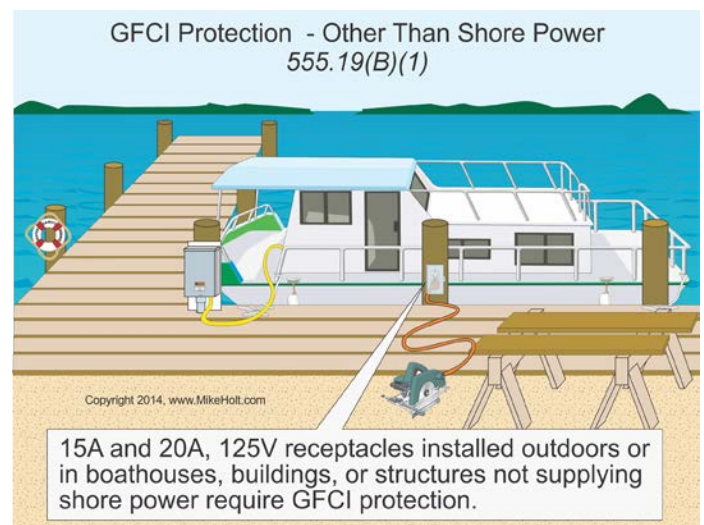

Figure 555-18
(1) GFCI Protection of Receptacles. 15A and 20A, 125V receptacles installed outdoors, in boathouses, buildings/structures used for storage, maintenance, or repair for portable electric hand tools, electrical diagnostic equipment, or portable lighting equipment must be GFCI protected. Figure 555-18